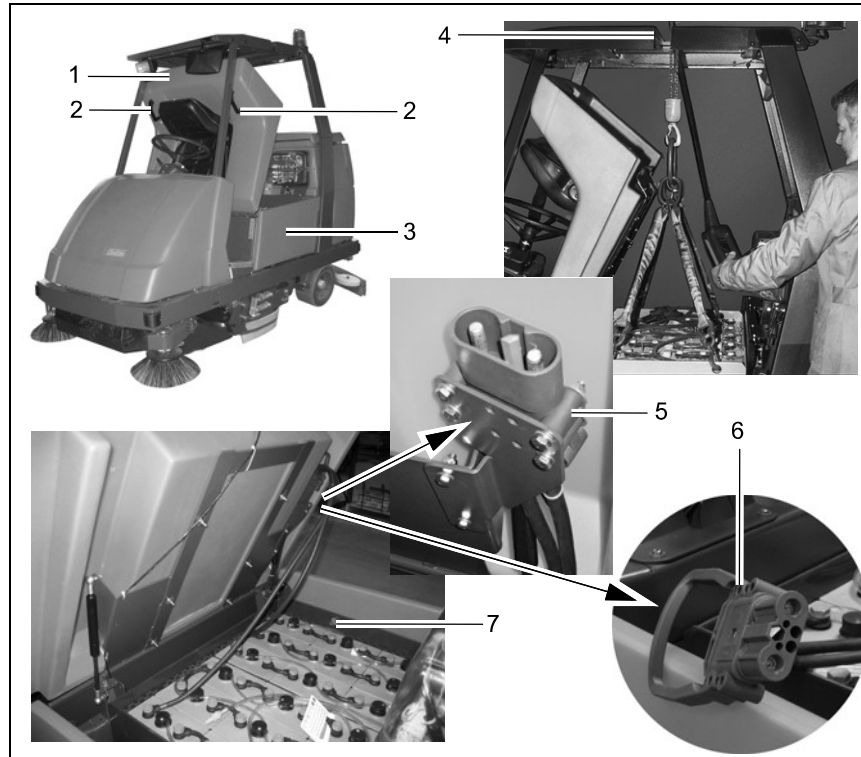

Fig. 26
2. Open the side doors to the left and right (Fig. 26/3).
3. Positioned on the right-hand side of the vehicle, take hold of the seat console at the handle (Fig. 26/2) and pivot up towards the front.
Pivot the seat console (Fig. 26/1) open from the right-hand side of the vehicle otherwise your hands could be crushed between the seat console and cab safety roof (if fitted).
4. Disconnect the battery and vehicle plug (Fig. 26/5+6).
If the scrubber drier is equipped with a cab safety roof, lift the trough battery out on the left-hand side of the battery. The cab safety roof has a recess (Fig. 26/4) for the lifting gear rope.
5. Guide the lifting gear from the left to the battery and hang the hooks in the fitting holes on the battery trough (Fig. 26/7).
1. Open the side doors to the left and right (Fig. 26/3).
2. Take hold of the seat console (Fig. 26/1) at the handle (Fig. 26/2) and pivot it forwards to open it.
Install the trough battery in the vehicle from the left-hand side of the vehicle using lifting gear or a fork-lift truck according to the Figure 26.
If the scrubber drier is fitted with a cab safety roof, the trough battery can only be installed from the left-hand side of the vehicle; the cab safety roof is provided with a recess (Fig. 26/4) for the lifting gear rope.
Connect the battery plug (Fig. 26/6) and vehicle socket (Fig. 26/5) to each other. Ensure they are connected firmly.